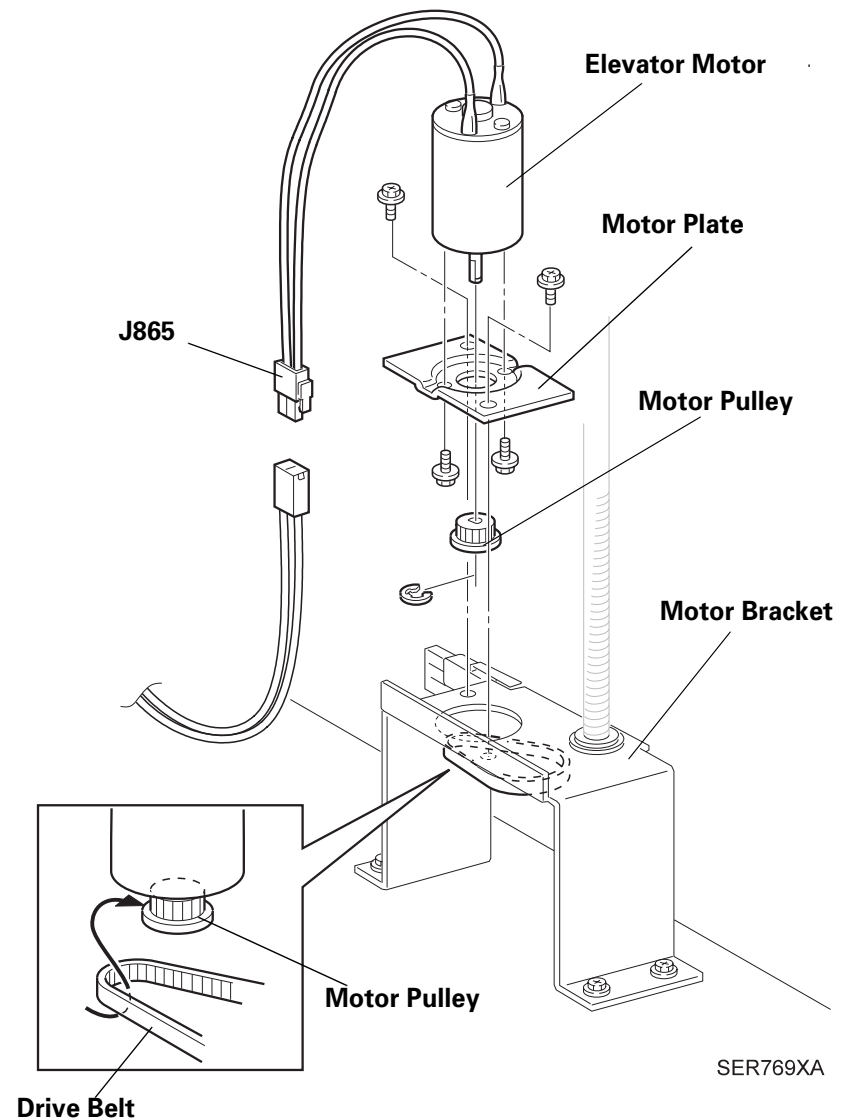

Figure 3-21. Stacker Elevator Motor
1. Place the Elevator Motor against Motor Plate as shown in the Figure 3-21.